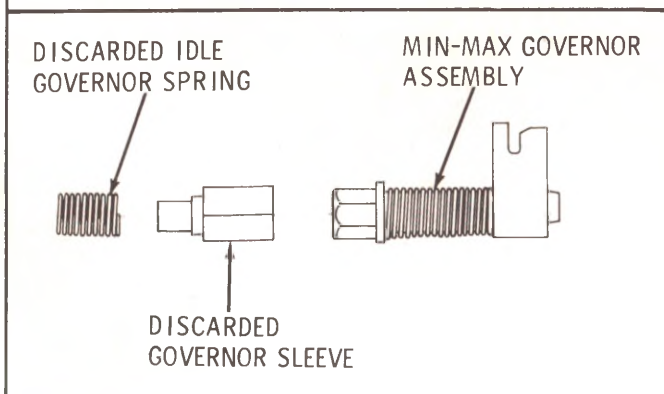

Fig. 5-1 Discarded Min-Max Governor Parts
2. Discard idle spring and sleeve as shown in Figure 5-1.